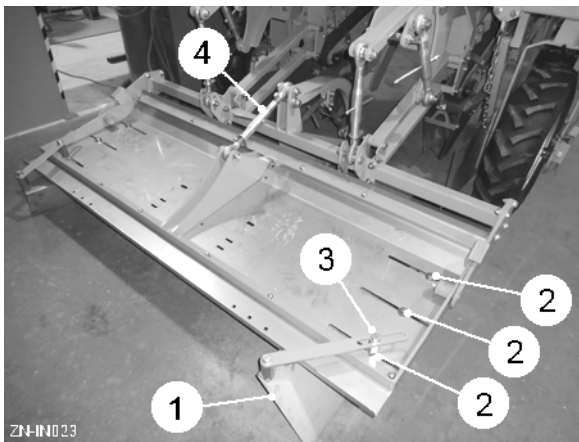

Fig 18
The multi-adjustable moulding board can be set up for planting rows or beds. The position of the wings (item 1, fig 18) is important to ensure a nicely formed bed.
The outer wings are adjustable for width by loosening the mounting bolts x3 (item 2, fig 18). To adjust the angle of the wing, loosen the retaining screw (item 3, fig 18) and pull the wing out. Adjust both sides equally. The angle of the centre wings (if fitted) are adjustable in the same way.
The top link (item 4, fig 18) sets the angle of the moulding board. Initially, the board should be pitched up at approximately 5° at the front. Lengthening the top link will increase the angle allowing more soil under the board whilst simultaneously holding the soil and compressing it.